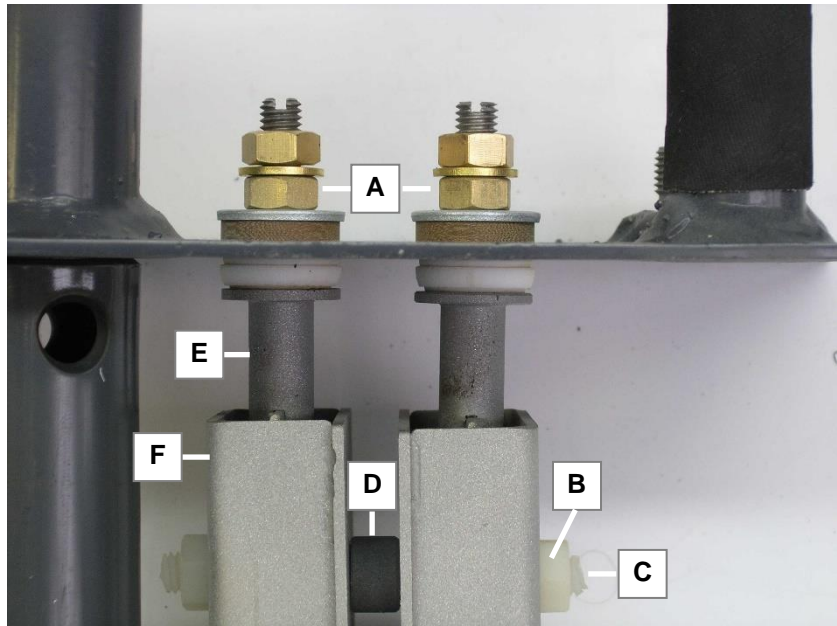

Fig. 7.5.2 Screwed-in electrodes at the reactor cover
| Unscrew electrodes | 3. Unscrew the nuts (fig. 7.5.2.A) and remove the electrodes from the reactor cover. |
| Screw open electrodes | 5. Unscrew the 4 plastic nuts (fig. 7.5.2.B) and take out the plastic threaded rods (C) and spacers (D). Anodes and cathodes (E/F) are now separated. |